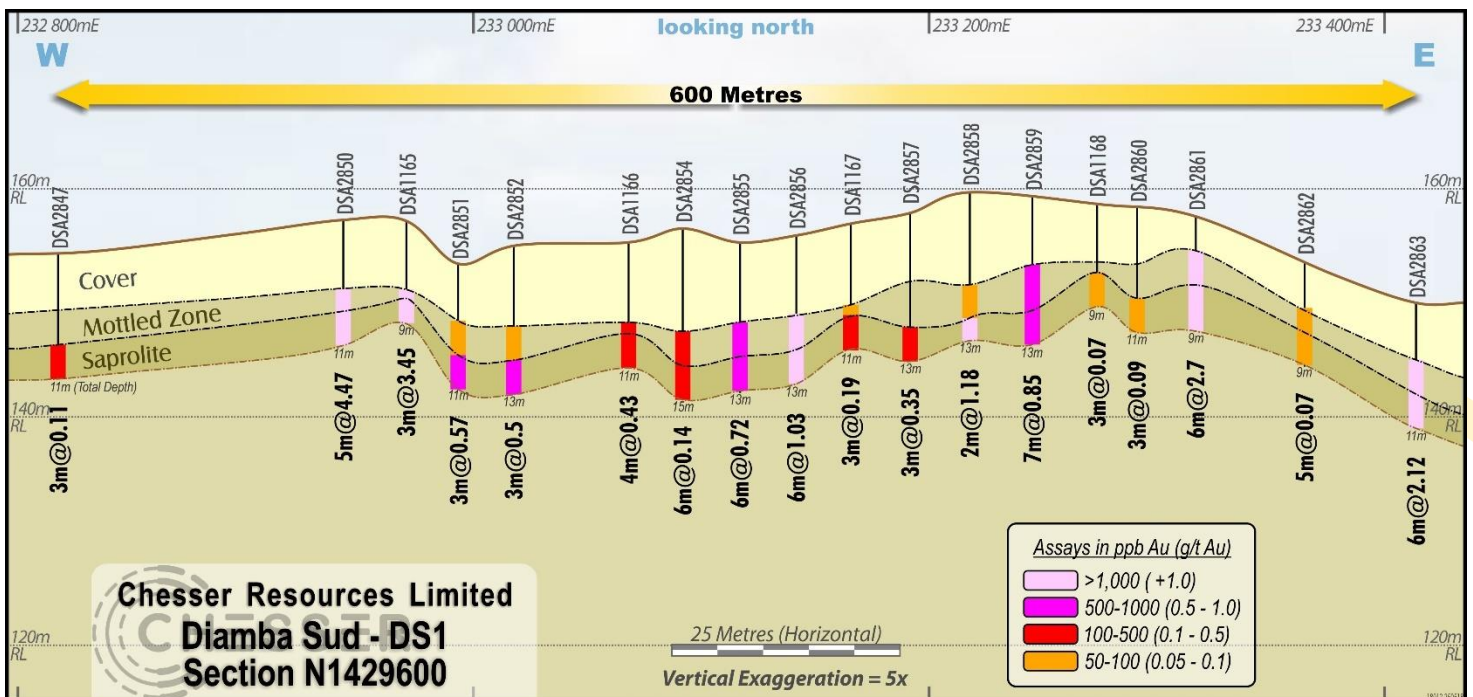

Figure 2: Cross-section of auger assays and intersected intervals along traverse N1429600
- iii. The gold domaining shown in Figure 1 and Figure 2 are for the highest gold assay value returned from that hole
- iv. Individual auger hole intersections along one traverse (N1429600) are shown in Figure 2.